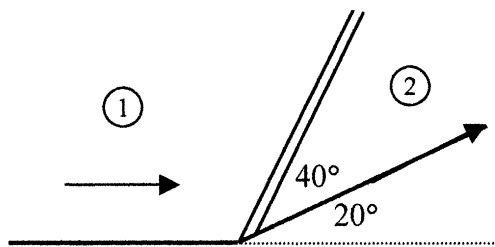

Fig. P9.124
**9.124** When a sea-level air flow approaches a ramp of angle  $20^\circ$ , an oblique shock wave forms as in Figure P9.124. Calculate (a)  $Ma_1$ ; (b)  $p_2$ ; (c)  $T_2$ ; and (d)  $V_2$ .